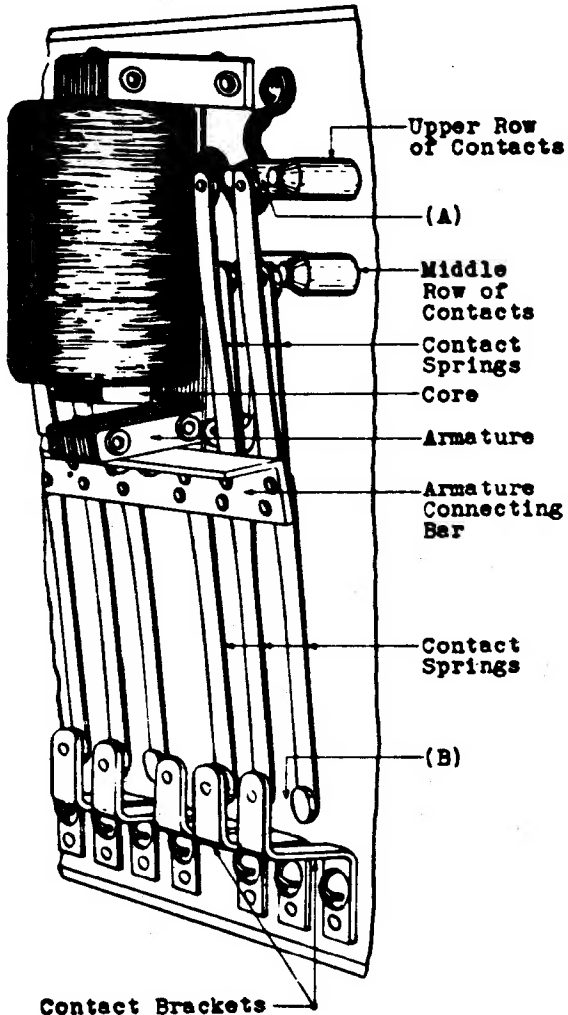

Fig. 2
2.05 Contact Separation - Fig. 2 (A) and (B)
(a) For KS-6902 and KS-6903 relays the middle row of contacts shall make before the upper row of contacts make. (See Fig. 2)